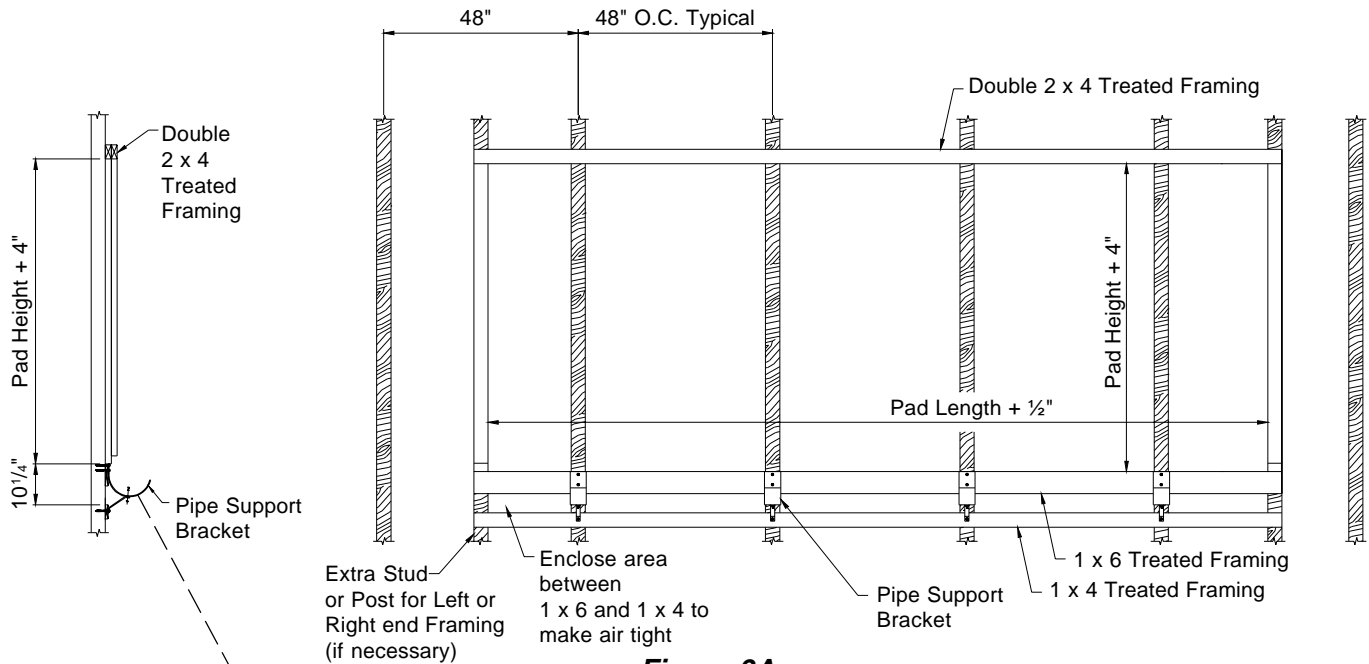

Figure 3A
- 3) At the bottom fasten the Pipe Support Bracket on the post (stud), necessary for spacing from **Chart A**, flush with top of 1 x 6 at a maximum of 5' O.C. with $\frac{3}{8}$ " x $3\frac{1}{2}$ " Lag screws (provided). **Pre-drill framing for Lag screws using $\frac{1}{4}$ " drill bit. See Figure 3A and 3B.** If framing does not match Figure 3A, framing must be capable of supporting 50-60 lbs. per foot.